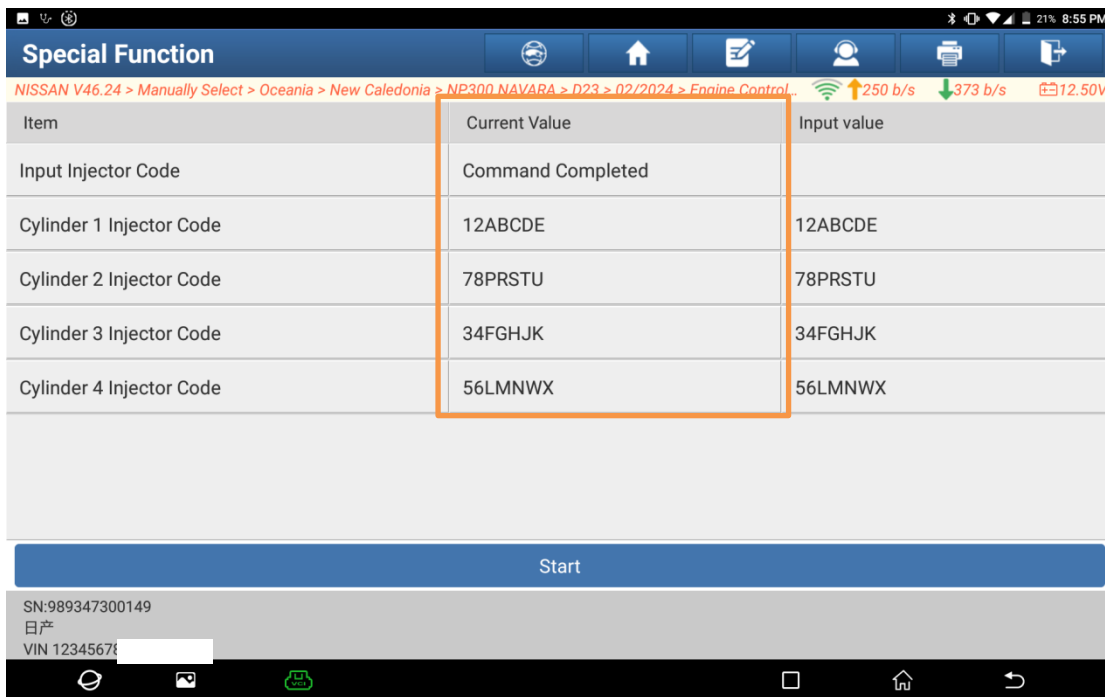

Figure 19
12. If the current status in the [Input Injector Code] item shows "Command Completed," and the [Current Value] displayed in each cylinder injector code field matches the code engraved on the corresponding injector (Figure 19), the operation is successful.